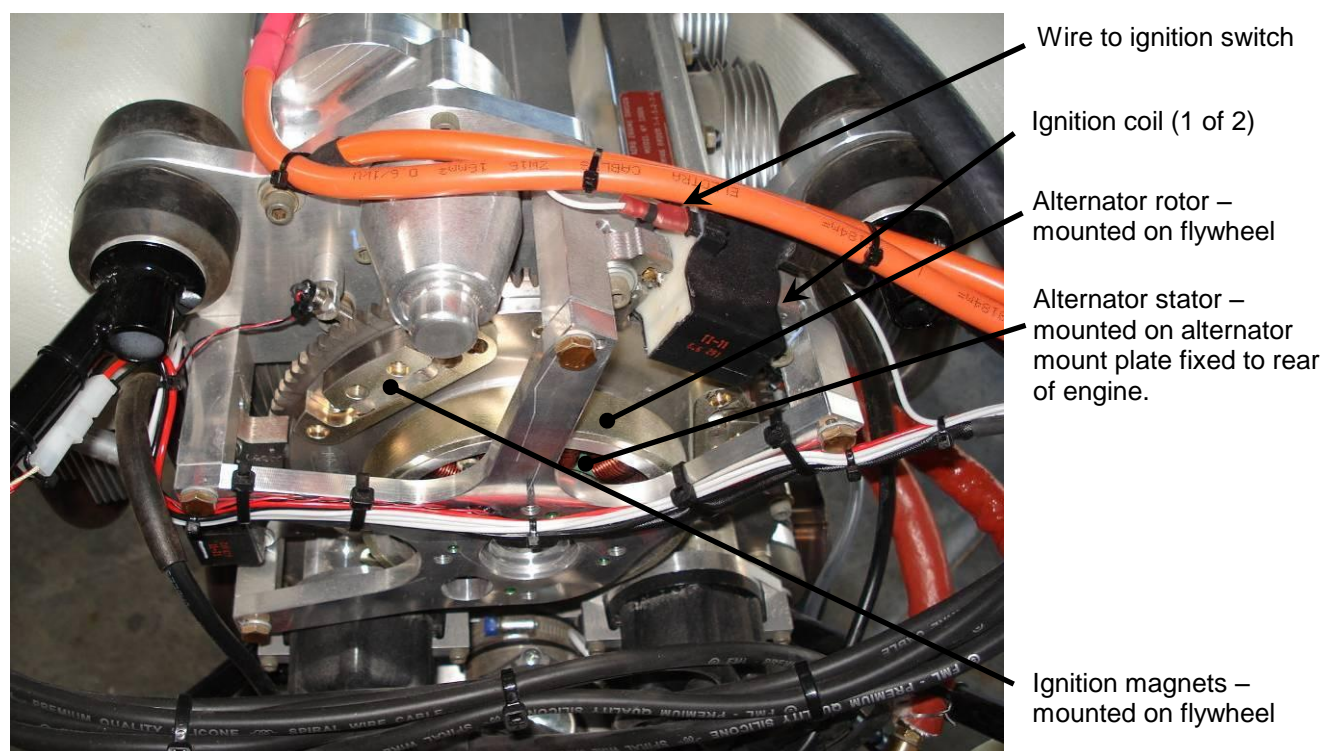

Figure 12. Ignition & Alternator Detail
- The ignition unit has dual breakerless transistorised ignition with the magnets mounted on the flywheel and the coils mounted on the alternator mount plate. Figure 12 shows the coils of a Jabiru 6-cylinder engine. For the 2200 engine the system is the same, however the position of the coils and the magnets on the flywheel are slightly different.
- When installing new ignition coils the output leads go in the direction of prop rotation. RHS coil output lead is up LHS coil output lead goes down – See Figure 12.